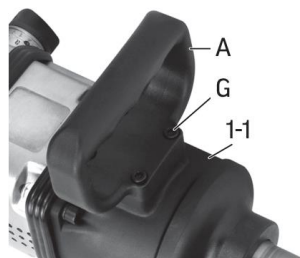

Fig. 1
2. Use socket head bolts and spacers (G) and tighten them securely using the hex key (I) (Fig. 1).